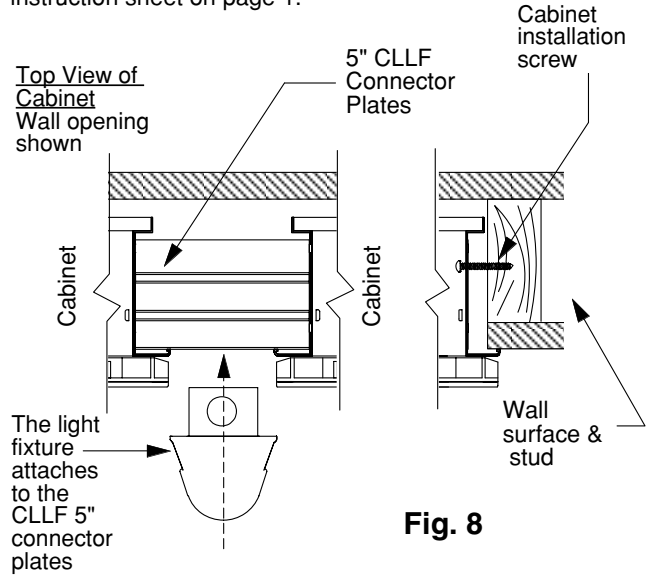

Fig. 8
2. Install the cabinet into the wall opening, Fig. 8, and install with screws supplied with cabinet and as shown in cabinet instruction sheet on page 1.